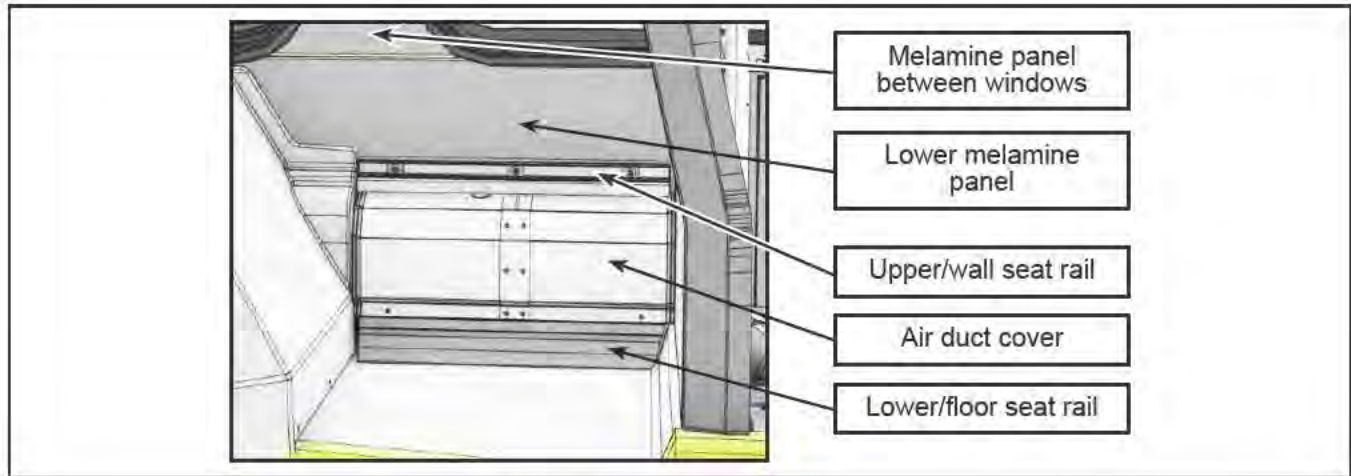

Figure 4 - Components to remove
- 1.12. Remove the upper/wall seat rail (Figure 4).
- 1.13. Remove the air duct plate (Figure 4).
- 1.14. Remove the lower/floor seat rail (Figure 4).
- 1.15. Remove the melamine panels (Figure 4).